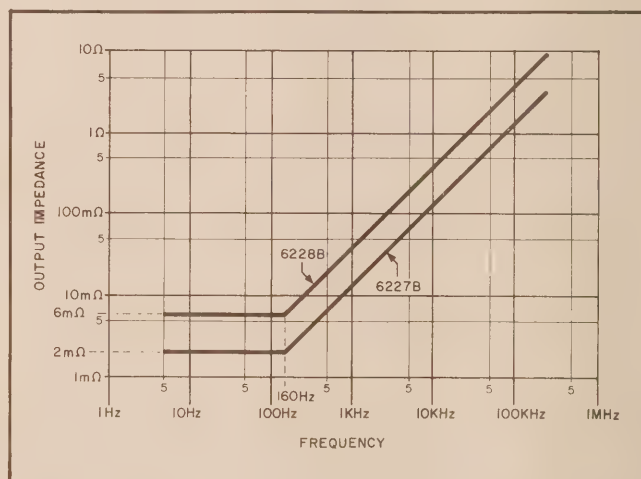

Figure 5-8. Output Impedance versus Frequency
j. Repeat Steps (d) through (i) for any other frequencies of interest up to 250kHz. (Note: Amplifier is not required at frequencies above 20kHz.) For any given frequency, the output impedance should be less than that indicated by the value of the curve in Figure 5-8. For example, at 1kHz the output impedance should be less than approximately 11 milliohms for the 6227B and 40 milliohms for the 6228B.